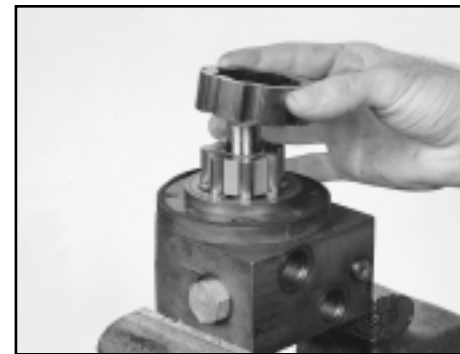

Figure D12
- 9. Remove the outer, rolls, inner and valve plate. SEE FIGURE D12.